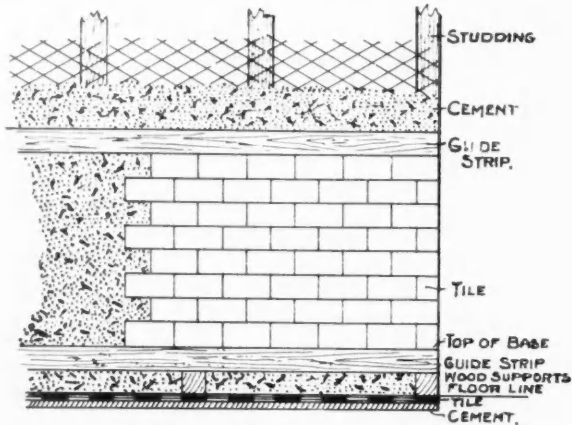

Fig. 7. Method of Laying Tile Wainscoting
**METHOD OF SETTING TILE FOR WALL OR WAINSCOTING.** Tile are first laid out and compared with plan provided for setting them. Guide strips are then placed on wall, parallel, and about two feet apart, bottom one being arranged to allow base to be set after body is in place (see Fig. 7).